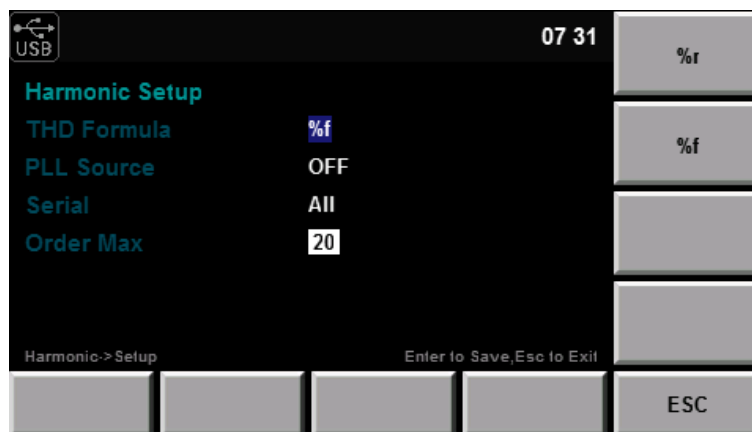

Figure 7.1: Harmonic Measurement Setup Menu
2. Press the soft key corresponding to the “SETUP” parameter in the harmonic measurement display interface to enter the harmonic parameter configuration interface. Press the “ ” button to select the required parameter, as shown in Figure 7.1.